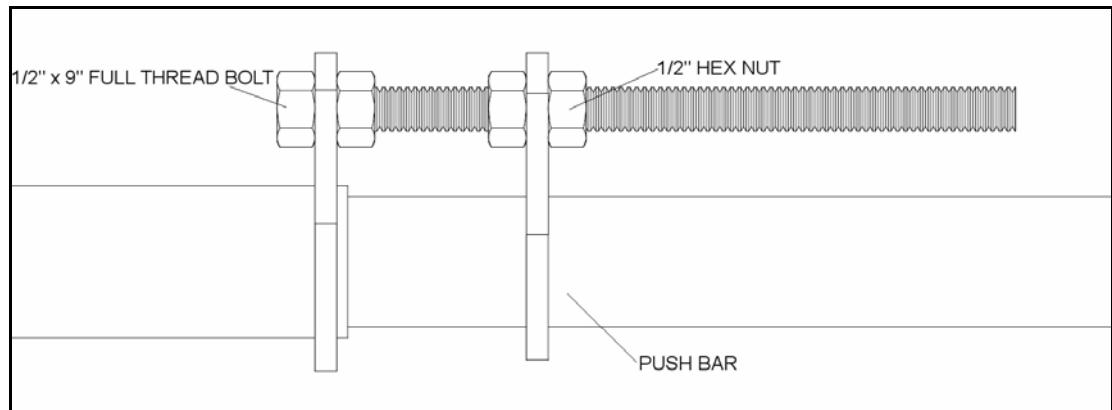
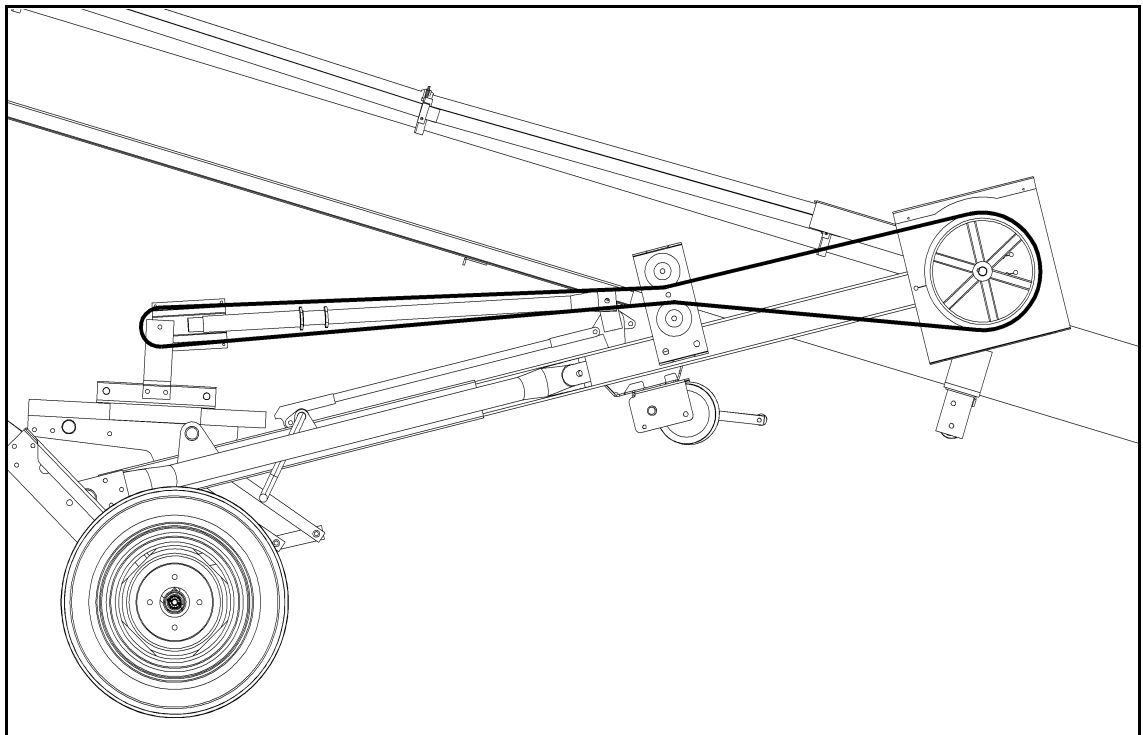

Figure 3.34
Figure 3.37
11. Use 1/2" x 10-1/2" bolt and three 1/2" hex nuts to set up push bar so that it can be adjusted as shown in Figure 3.34. Leave nuts loose until step 16.
17. Install belts on pulleys (Figure 3.37). Adjust engaged tension on belts using push bar adjuster (Figure 3.34). Refer to Table 3.5 for length specifications.